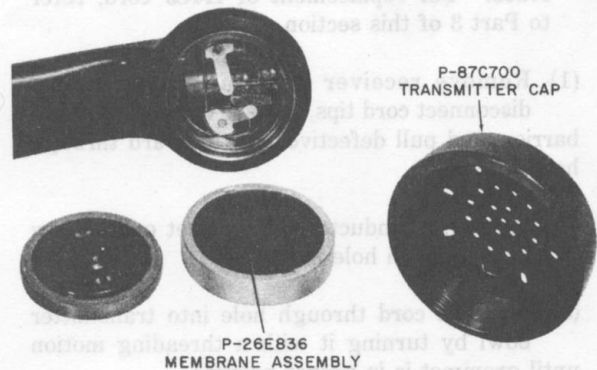

Fig. 7—Moistureproof Transmitter Assembly
2.04 A P-26E886 moistureproof membrane assembly, which fits over the transmitter and is a part of the G3AF, G3AG, G3AK, G3S, and G3T handsets, may be installed in any G-series handset. When this cover is used, it is necessary to install a special P-87C700 transmitter cap (Fig. 7).
2.16 G3AD, AE, AG, FR, M, P, R, S, and T handsets are intended for use on coin collectors. Some coin collectors are equipped with armored handset cords. The G3AF, G3AG, G3S, and G3T handsets are also equipped with a waterproof transmitter cover for use on outdoor coin collectors (Fig. 7).